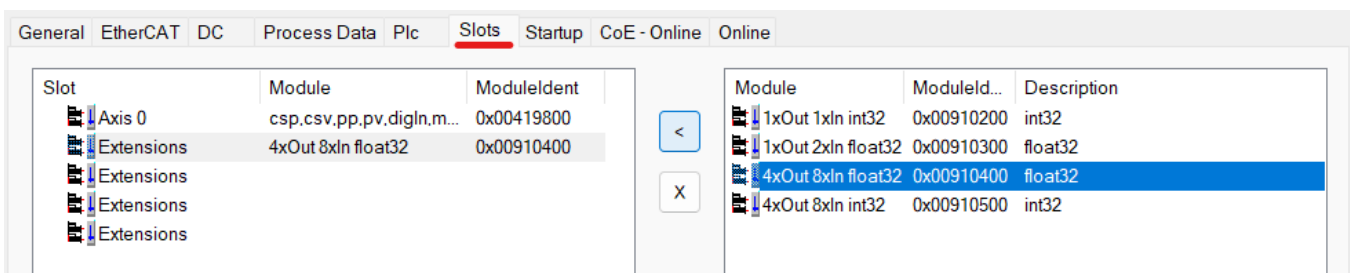

Figure 12: Slot configuration in TwinCAT
- Open **I/O > EtherCAT Master > Drive > Slots** (see Figure 12).